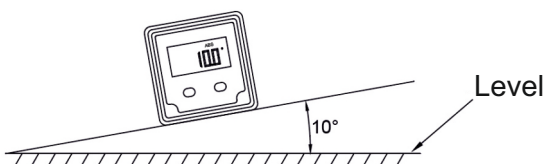

Fig.2
- » Place the instrument on the surface to be measured. The displayed value (Fig. 2) is the angle between the measurement surface and the horizontal plane when „ABS" is shown on the display.